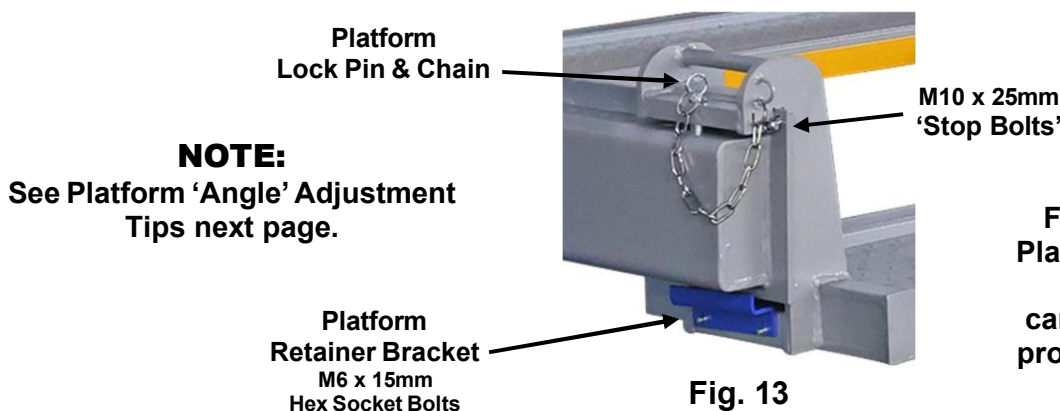

Fig. 13
- 3) Once the platforms are secured onto the bolster beams, install **M10 x 25mm 'stop bolts'** through ends of bolster beam and secure with **M10 nuts**. Secure platform position to bolster using **lock pins**. **Fig. 13.**
- 4) Secure each platform to bolter beam using the **platform retainer bracket**; mount using **M6 x 15mm hex socket bolts**, which maintains platform / bolster beam alignment when fully lowered. **Fig. 13.**